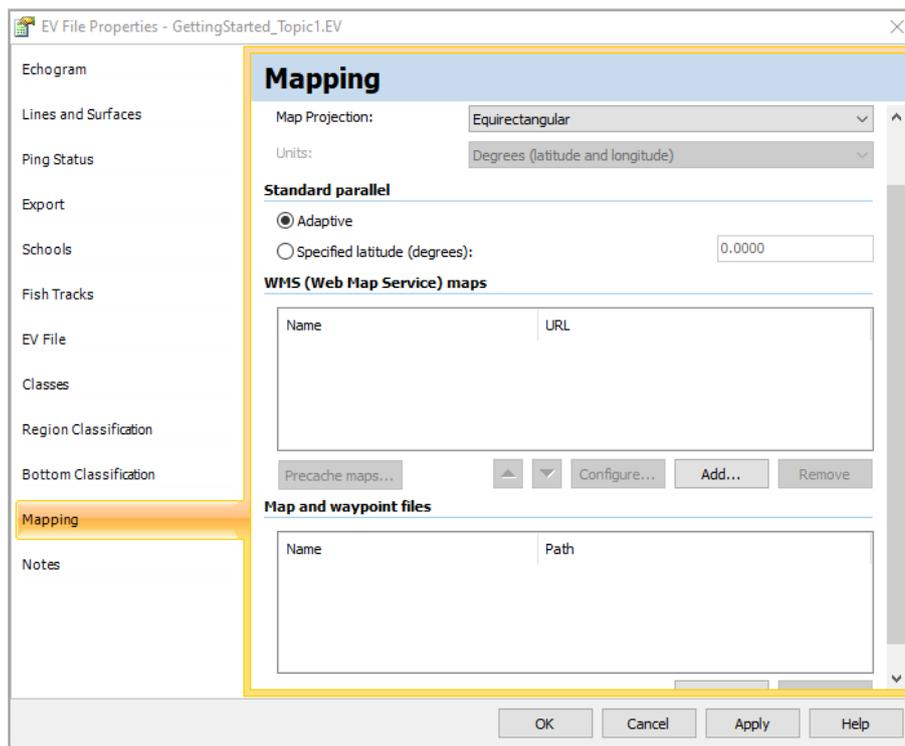

Figure 8. The Mapping page of the EV File Properties dialog box
7. Click the **Mapping** tab (Figure 8).
9. Select `tasmania2pts.MIF` and click **Open** to close the explorer window and return to the EV File Properties dialog box (Figure 8).
11. Use the navigation tools to view the map of Tasmania (Figure 8), Macquarie Harbour (Figure 9) or the cruise track (Figure 10).